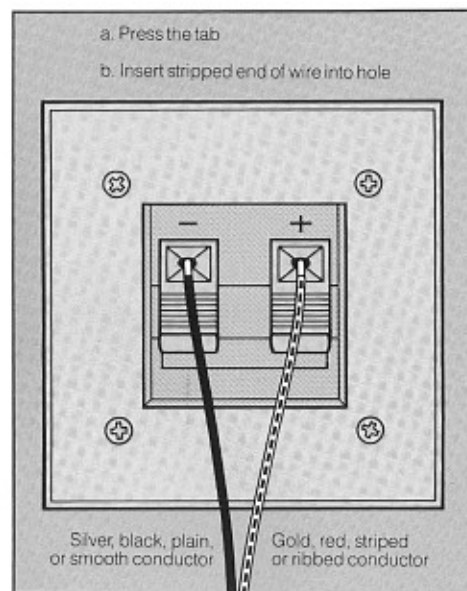

Figure 2. Connecting the speaker.
- Locate the speaker terminals on the bottom of the Part 1 (left) speaker. Connect the positive side of the wire to the (+) red terminal, and the negative side of the wire to the (-) black terminal. **Refer to Figure 2.**